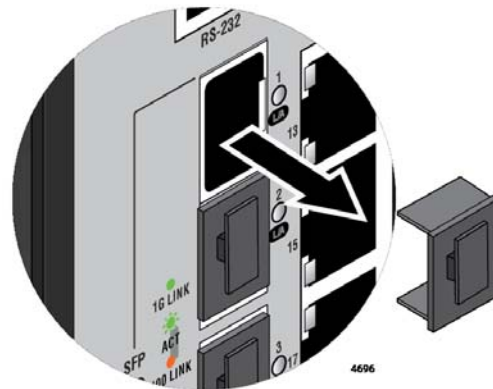

Figure 29. Removing the Dust Plug from an SFP Slot
1. Remove the dust plug from a transceiver slot. Figure 29 on page 91 shows the dust plug removed from slot 1.